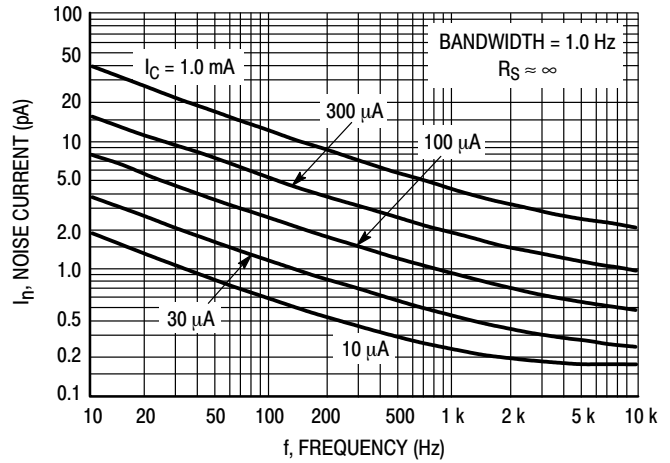

Figure 4. Noise Current
- I_n = Noise Current of the Transistor referred to the input. (Figure 4)